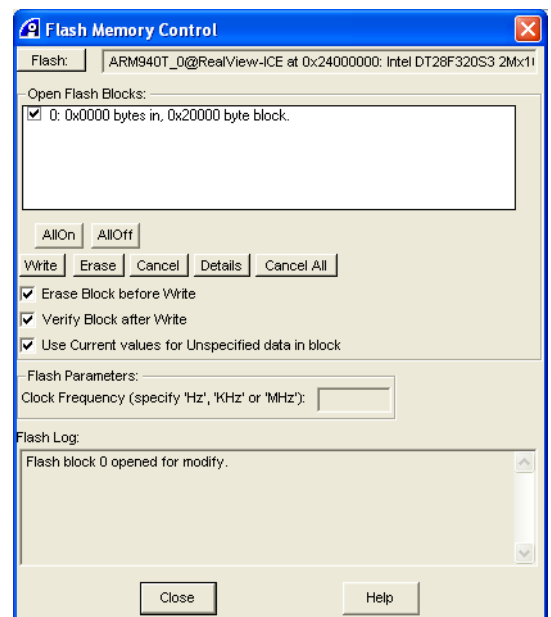

Figure 6-2 The Flash Memory Control dialog box
3. Locate the required image file, and click **Open**. The Flash Memory Control dialog box is displayed, shown in Figure 6-2. RealView Debugger queues the image in preparation for writing to Flash.